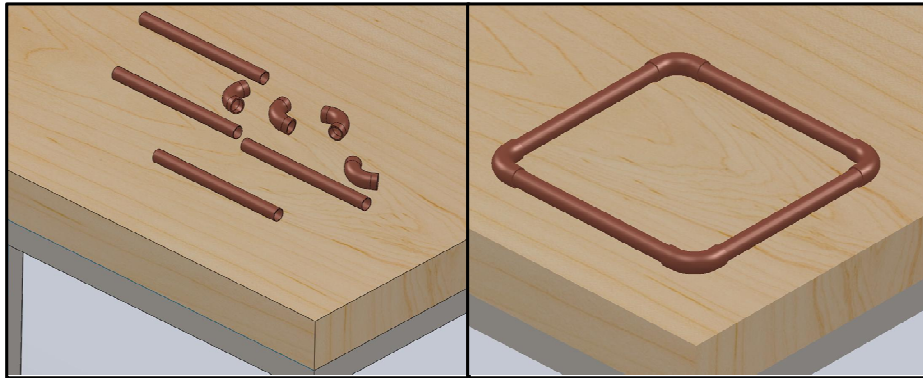

Figure 2: Assemble all the pieces- Make sure they are all in the same plane and snug.
Step 4: Assemble the four six-inch pipes and four **90° Copper Elbows** into a square as shown in Figure 2.